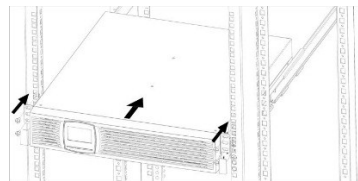

Figure 13: Fitting in a rack
7. Secure the mounting bracket of the UPS system in the rack (see Figure 13).